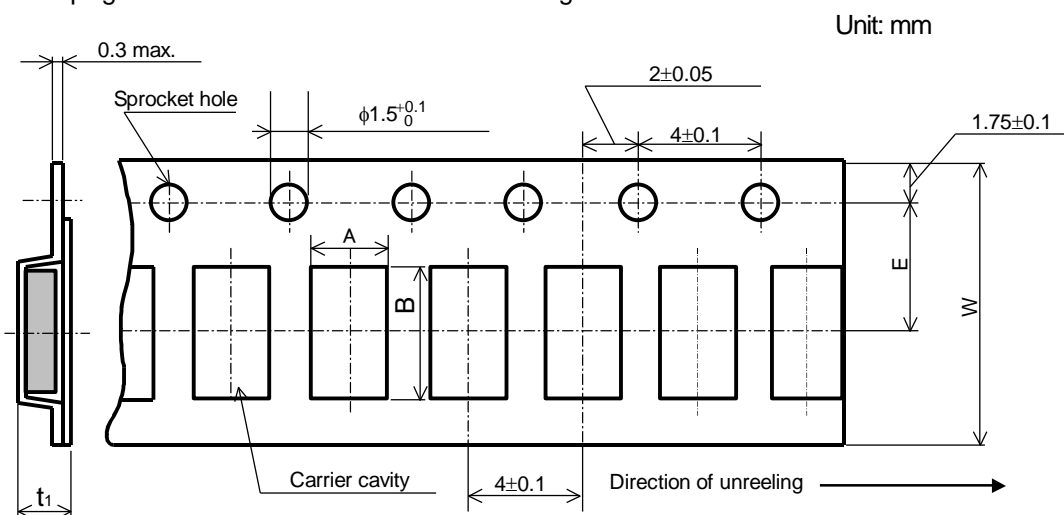

Figure-7
9.2.2 Embossed taping dimensions shall be in accordance with Figure-7 and Table-6.